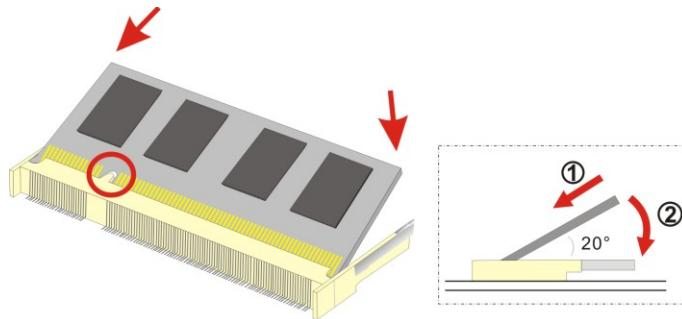

Figure 4-1: SO-DIMM Installation
To install a SO-DIMM into a SO-DIMM socket, please follow the steps below and refer to **Figure 4-1**.
Step 3: Insert the SO-DIMM. Push the SO-DIMM chip into the socket at an angle. (See **Figure 4-1**)
Step 4: Open the SO-DIMM socket arms. Gently pull the arms of the SO-DIMM socket out and push the rear of the SO-DIMM down. (See **Figure 4-1**)